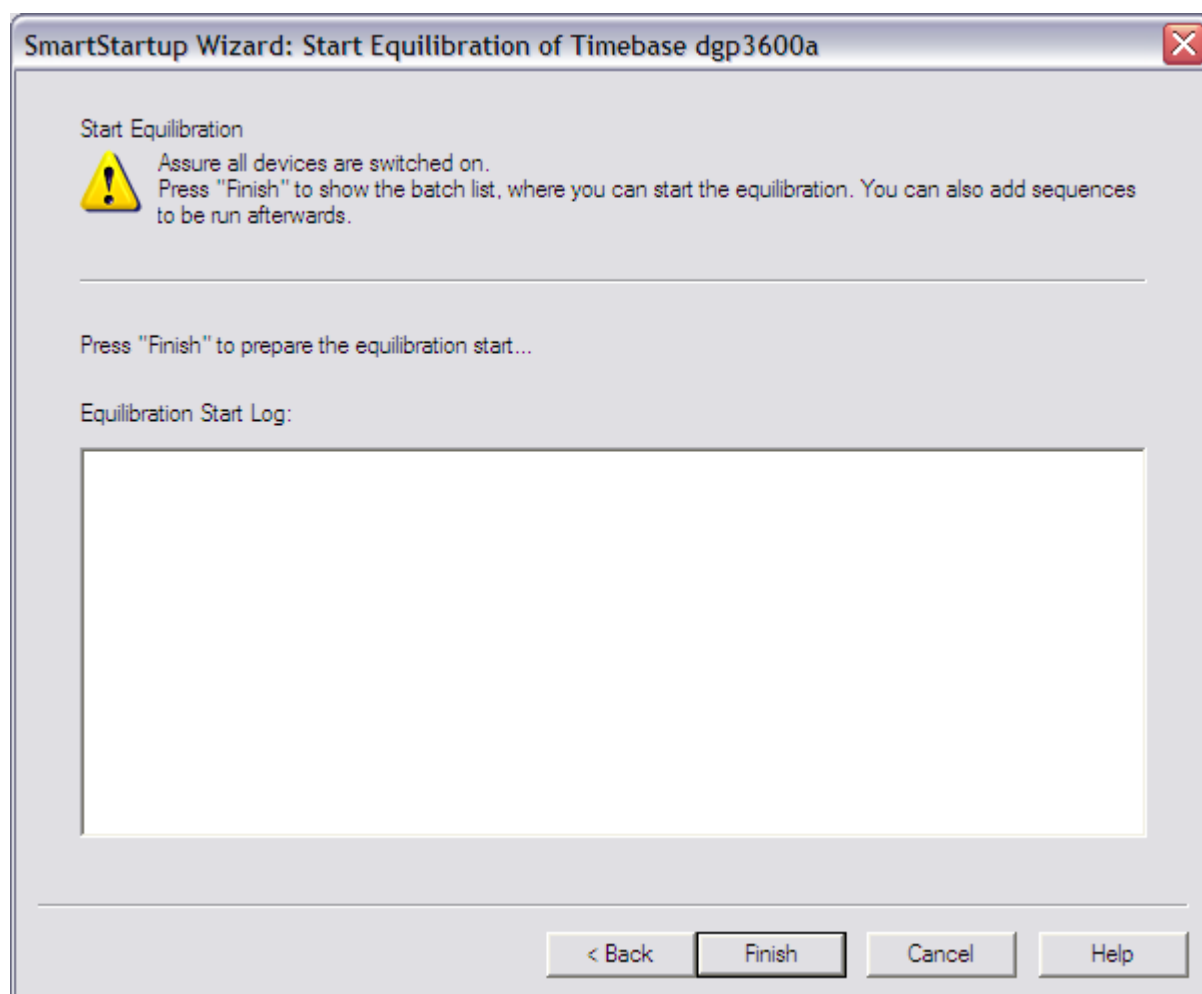

FIGURE 8-11: SmartStartup wizard – warning before starting the equilibration of the system
9. If all the equilibration settings for the devices are finalized, click **Next** in the equilibration settings for the system devices (FIGURE 8-6). Make sure that all devices are switched on before the equilibration is started (FIGURE 8-11).